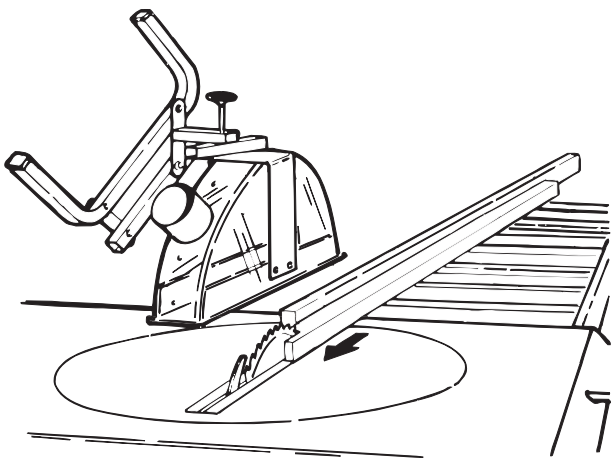

Fig. 17
- Slide workpiece forward along fence, using push stick for final **120 mm (5 in)** and if blade-fence width is less than **120 mm (5 in)**. Fig 17 and 18.